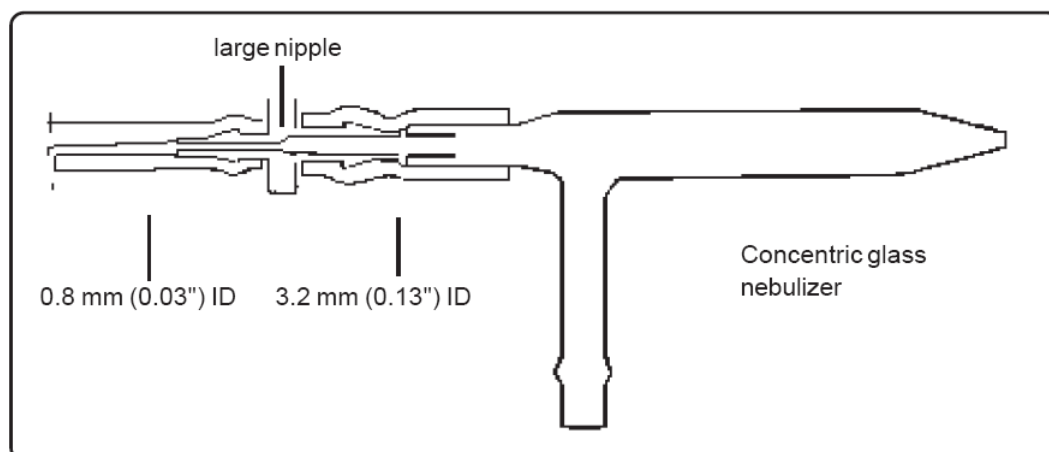

Figure 2. Nebulizer connection
**Glass Concentric:** Fit the short piece of 3.2 mm (0.13 in.) ID tubing, and large nipple supplied with the sample pump tube kit, onto the inlet of the nebulizer as shown in Figure 2. The nipple on the nebulizer can now be connected to the nipple on the outlet of the sample pump tube by using a 260 mm (10.2 in.) length of 0.8 mm (0.03 in.) ID ketone resistant tubing. Alternatively, two small pieces of this tubing on each nipple, together with a connecting piece of sample capillary can be used.